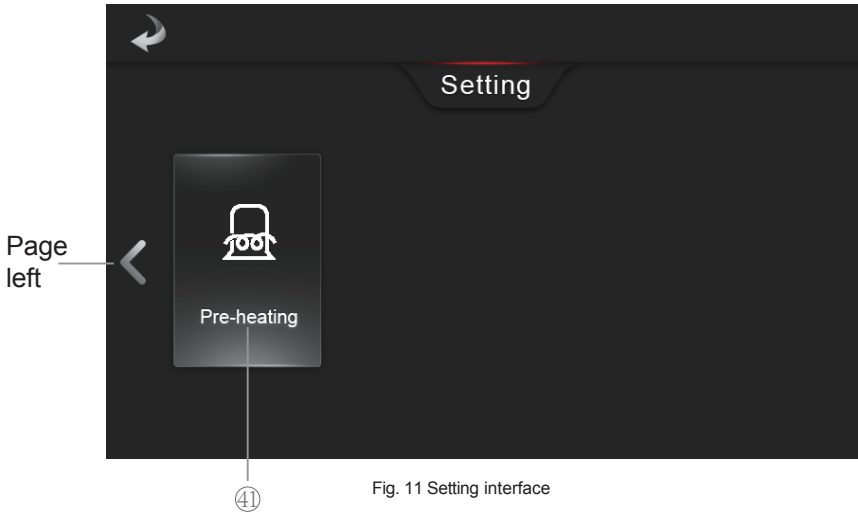

Fig. 11 Setting interface
In the Setting interface (Fig.11), while the button ④ displays “OFF Pre-heating” and “A screenshot of a warning interface on a dark background. At the top center, the word "Warning" is displayed in white. Below it, a red triangle with a white exclamation mark is shown to the left of the text "Pre-heating function is only available when the unit is switched off." in red. In the top-left corner of the warning box, there is a white curved arrow pointing left.